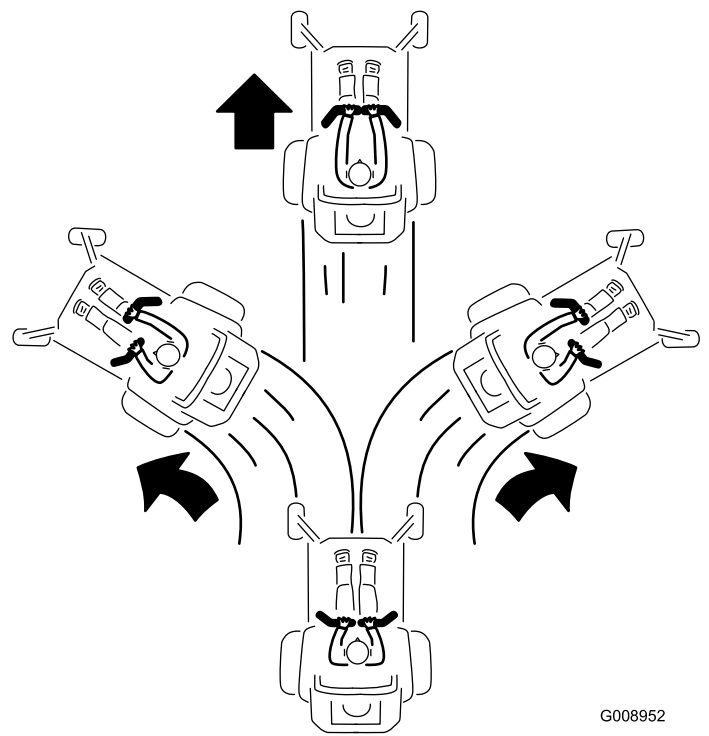

Figure 29
3. To go forward, slowly push the motion-control levers forward (Figure 29).